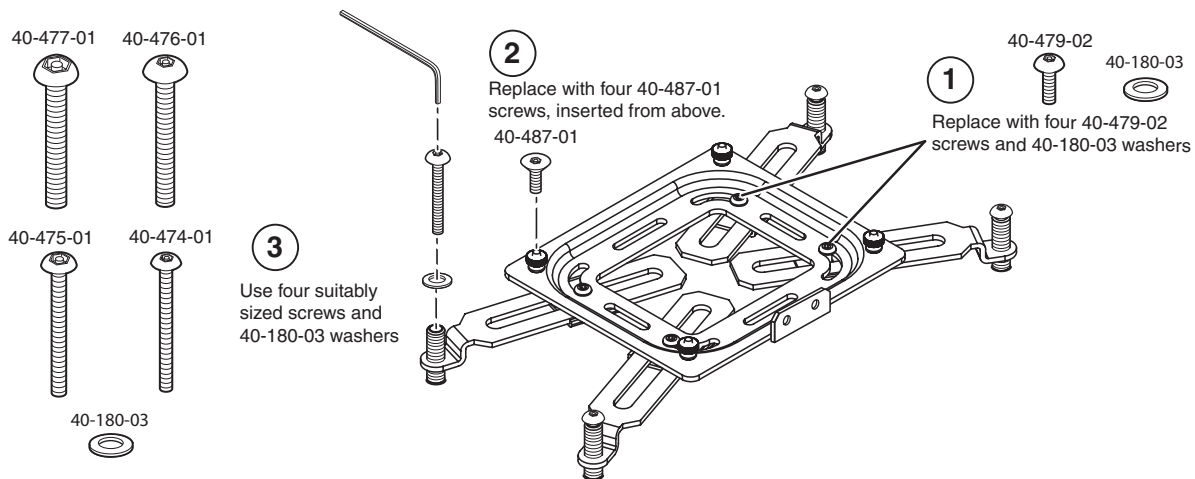

Figure 3 Steps 1-3 for installing security screws on the UPB 25 projector mounting bracket
1. Using the four 40-479-01 screws and four 40-180-03 steel washers, replace the existing arm adjustment/locking screws (see figure 3, ①). Do not tighten these screws completely at this time.
2. Remove the four adapter plate retaining screws by removing the knurled nuts and unscrewing from below. Replace them with four 40-487-01 screws inserted from above (see figure 3, ②). Do not use washers. At this time, tighten the screws just enough for them to take hold.
3. Following the instructions in the UPB 25 User's Manual, install the mounting bracket on the projector using four suitably sized security screws (40-477-01, 40-476-01, 40-475-01, or 40-474-01) and four 40-180-03 steel washers (see figure 3, ③).